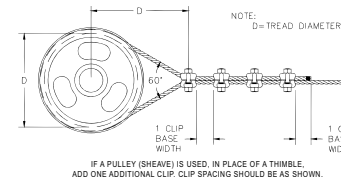

Figure 4
4. If a pulley (sheave) is used in place of a thimble, add one additional Fist Grip. Fist Grip spacing should be as shown. (See Figure 4)
If a pulley (sheave) is used for turning back the wire rope, add one additional clip. See Figure 4.